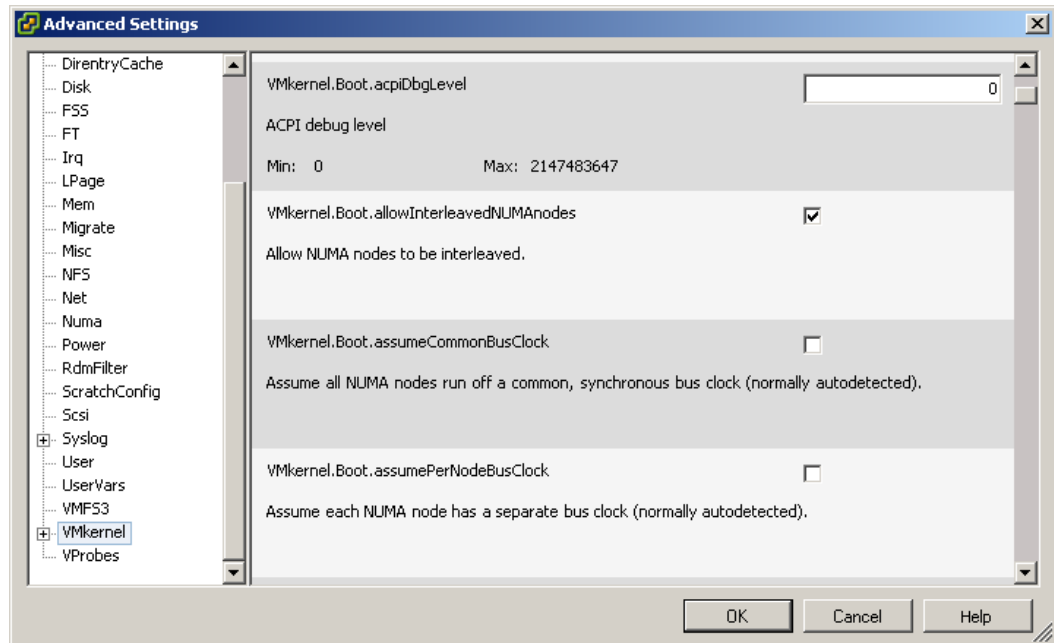

Figure 8-68 Editing the VMkernel settings in vSphere Client
3. Click **VMkernel** in the left pane and select the check box next to **VMkernel.Boot.allowInterleavedNUMANodes**, as shown in Figure 8-68 on page 432. Click **OK** when finished.